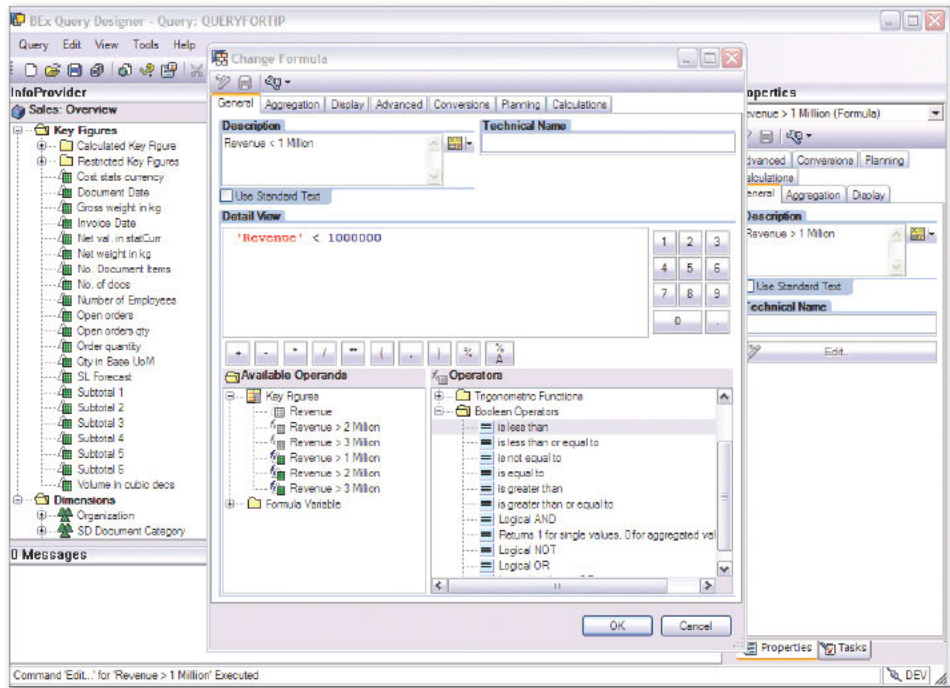

Figure 2 Creating a Formula in a BEx Query
3. Create the formula for "revenue less than 1 million" by following three steps (see Figure 2):